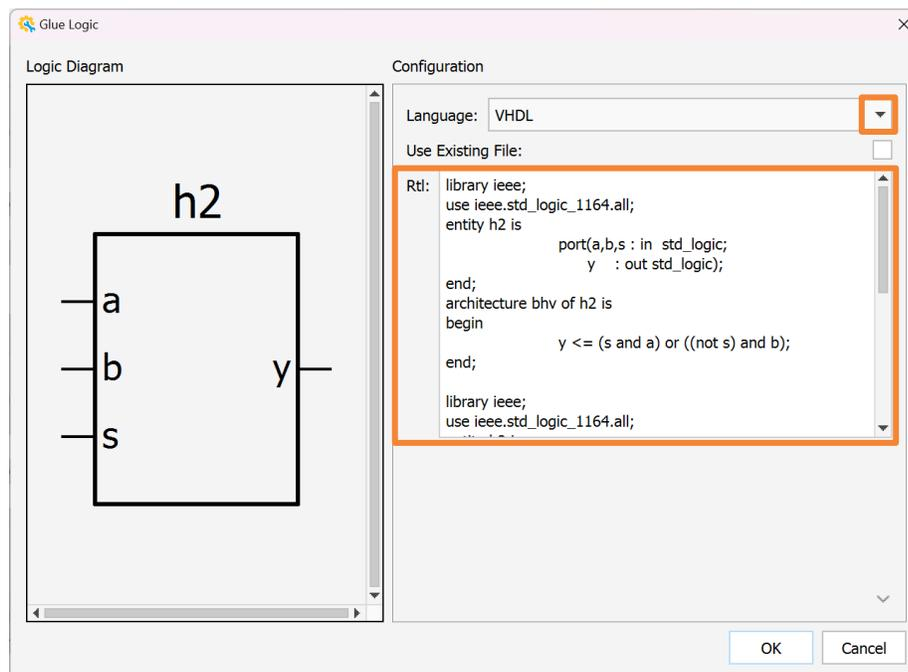

Figure 2.34. Glue Logic Wizard for RTL Module
1. From the IP Catalog, select the RTL module. Double-click the RTL module or drag and drop the RTL module to the Schematic view. A Glue Logic wizard pops up (Figure 2.34). Glue Logic supports both Verilog HDL and VHDL. You can use the drop-down menu to choose a desired language.
2. You can edit your own RTL module in the RTL area by entering the RTL module function (Figure 2.34).